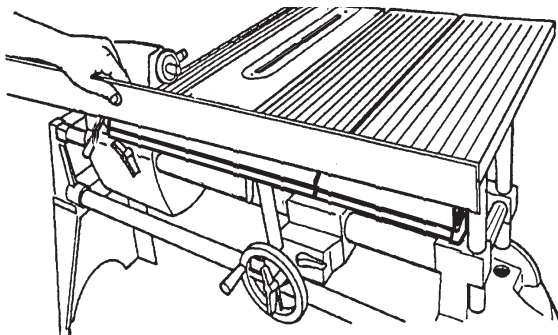

Figure B-104
- 76. Place the straightedge along the infeed-side tops of both the worktable and extension table tubes, as shown in Figure B-104.